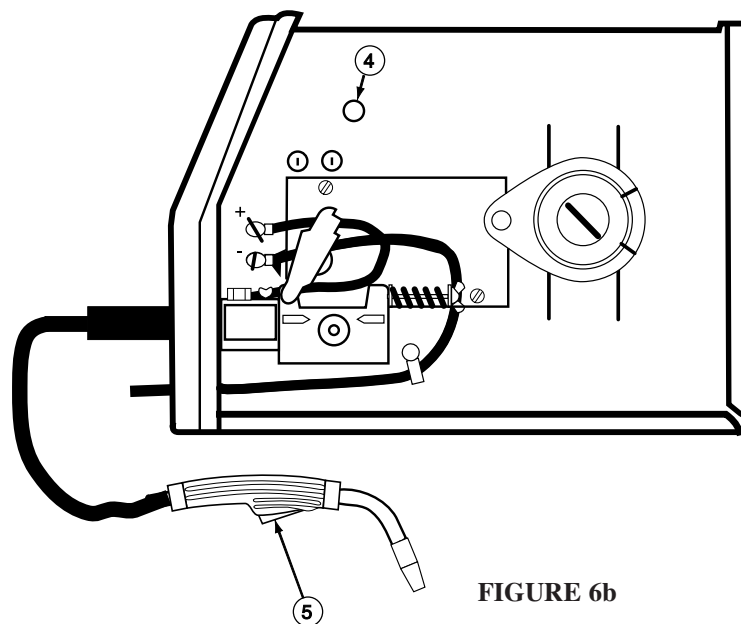

FIGURE 6b
- Refer to Figure 6b.
Se reporter à la figure 6b.